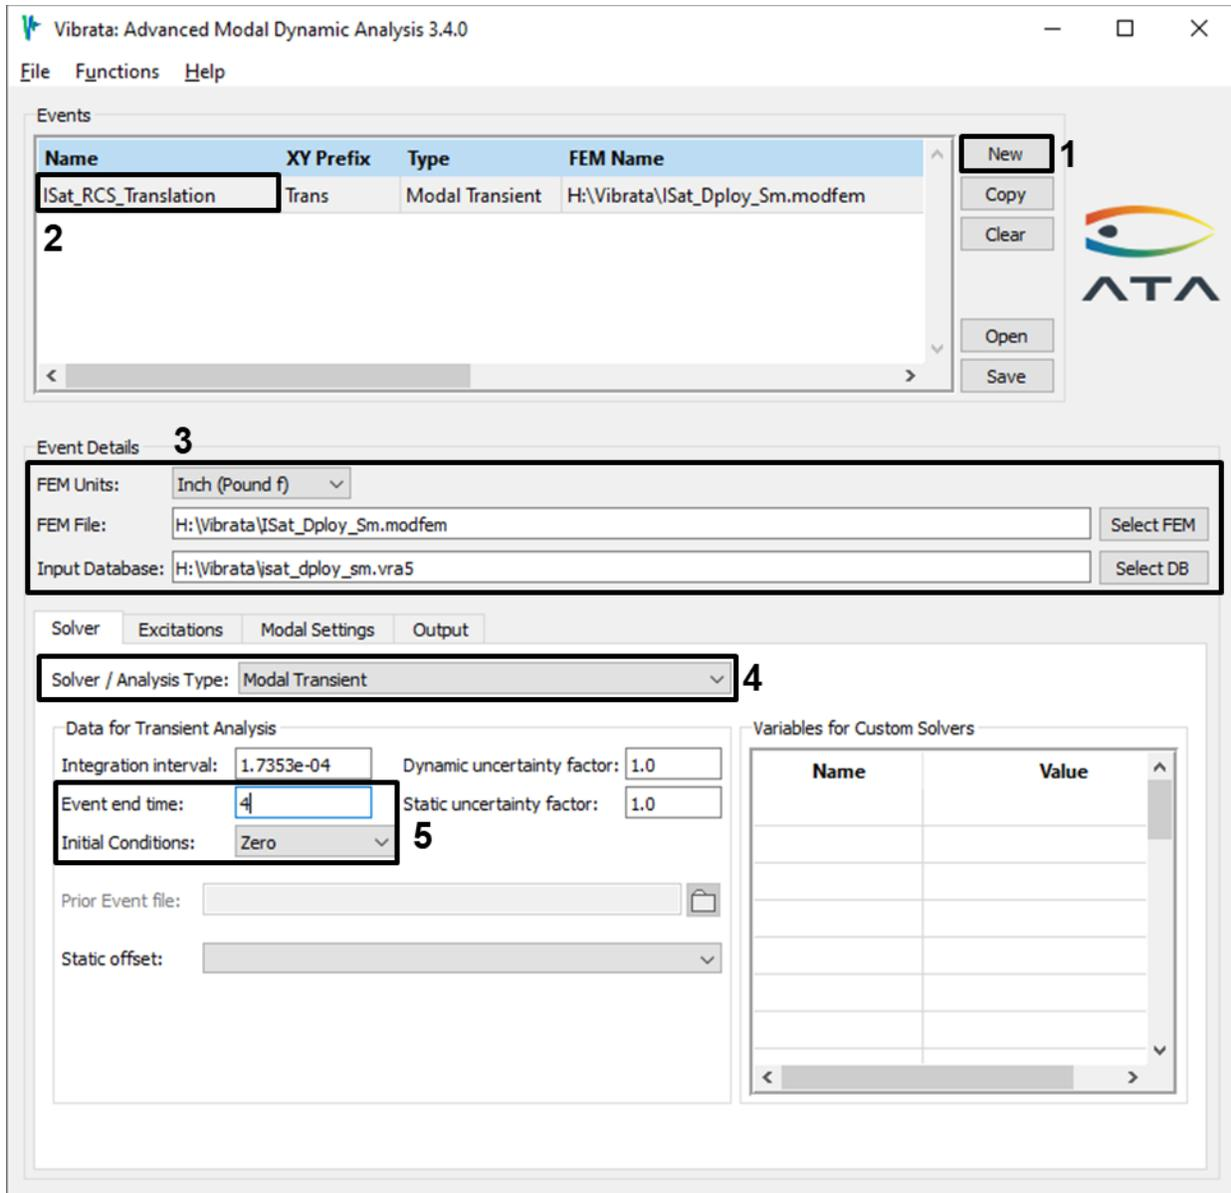

Figure 4-90. Transient event setup for deployed ISat model.
2. In the Event Manager, set up a new transient event and select the Femap file you just created and the OP2 “isat\_deploy\_sm.op2”. Set the event end time to 4.0 seconds and its initial conditions to Zero. Assign it an informative name. See Figure 4-90.